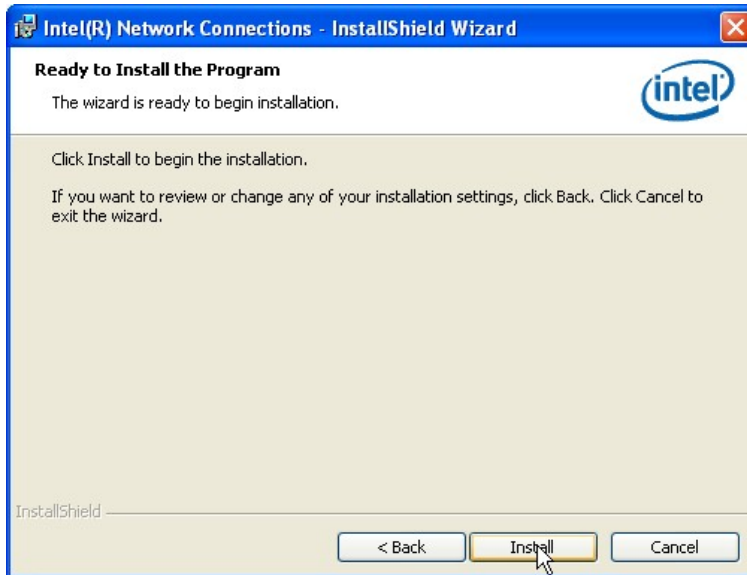

Figure 6-18: LAN Driver Installation
Step 14: The **Ready to Install the Program** screen in **Figure 6-18** appears.